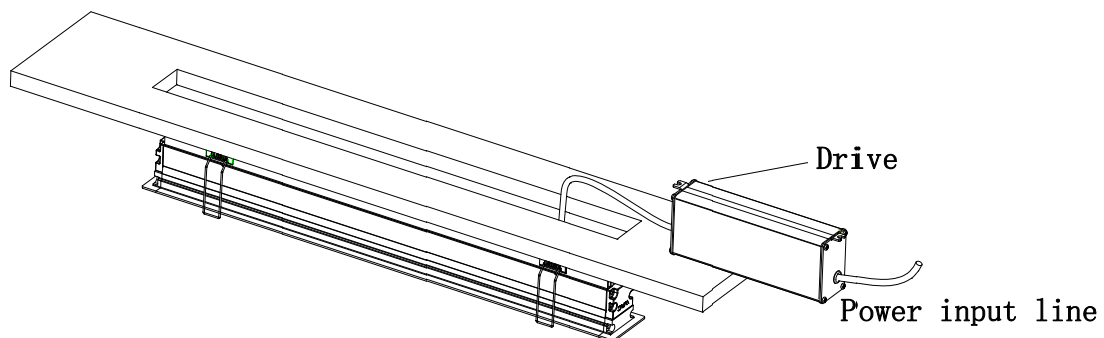

Figure 2
2. Lamp wiring: Connect the power input line of the lamp to the mains power line, and pay attention to the waterproof treatment of the wire connection (as shown in Figure 2):